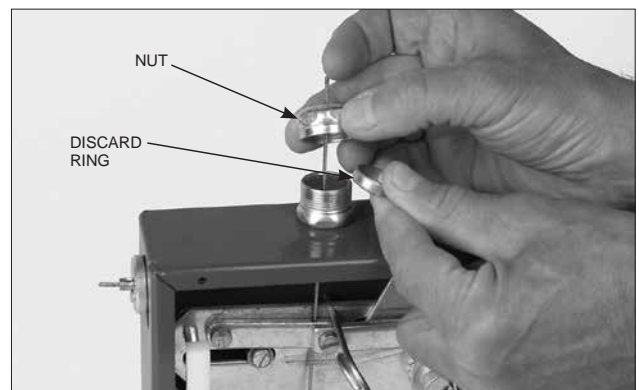

FIGURE 4-41
3. Unscrew the nut from the EMT conduit connector and remove the compression ring. Discard ring. See Figure 4-41.